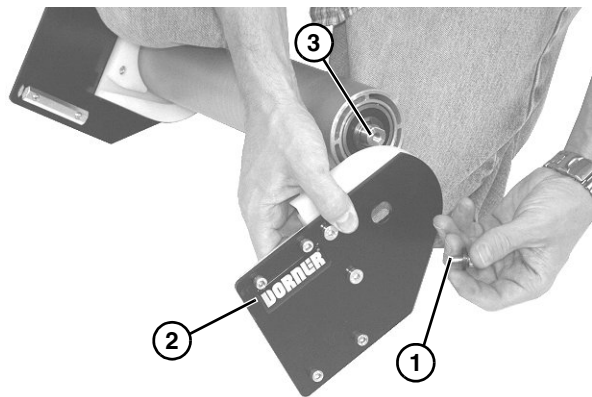

Figure 34
4. Remove socket head screw (**Figure 34, item 1**) from plate (**Figure 34, item 2**) and center of spindle shaft (**Figure 34, item 3**). Repeat procedure on opposite side.